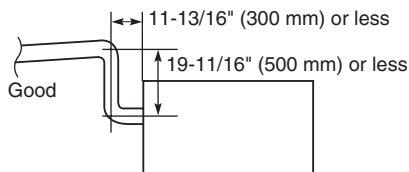

Fig. 1-42
- If it is necessary to increase the height of the drain pipe, the section directly after the connection port can be raised a maximum of 1.64 ft. (500 mm). Do not raise it any higher than 1.64 ft. (500 mm), as this could result in water leaks. (Fig. 1-42)